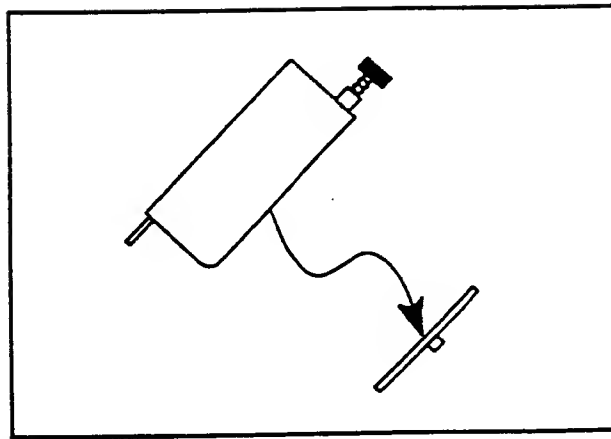

Figure 4.2 Removing the configuration panel from the probe cover
- 1 Configuration Panel (inside the back cover of the DP95). Refer to Figure 4.2
3. Remove the magnetized configuration panel from the inside of the probe connection cover, as shown in Figure 4.2.